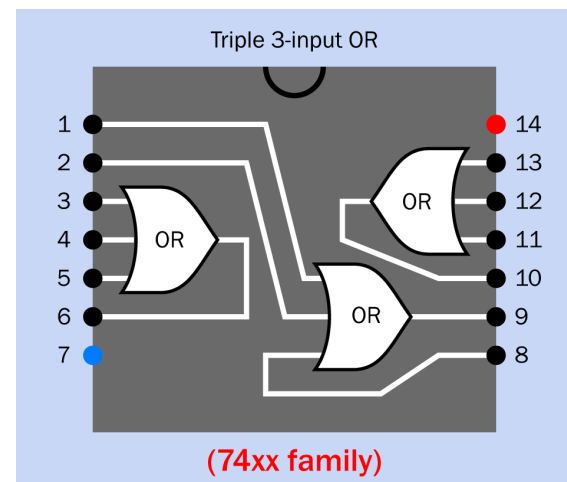

Figure 10-18. In a triple three-input 74xx OR chip, this layout is used, which is different from that used for all the other triple three-input logic gates.
- The 14-pin triple three-input OR chip has different pinouts from all the other 74xx logic chips. It is shown in Figure 10-18.